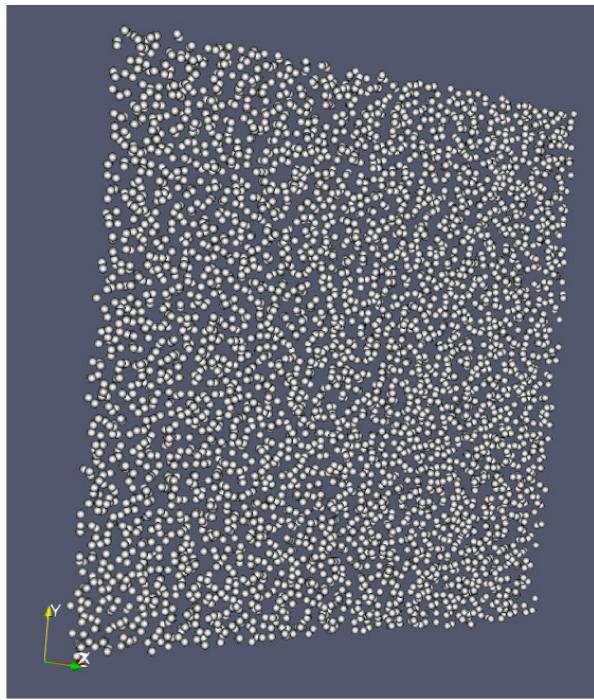

Fig. 17.4: : Particle image generated with ParaView
4. Change the Gaussian Radius if you like. You can scroll through the frames with the VCR-like controls at the top, as shown in Fig. 17.4.